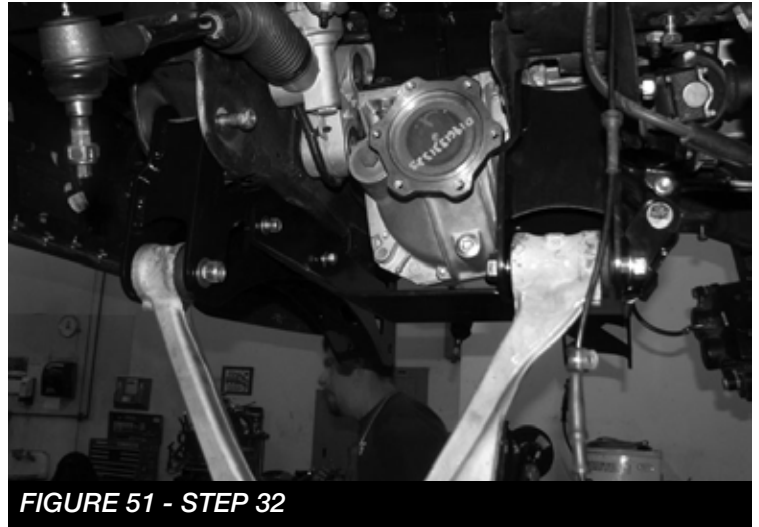

FIGURE 51 - STEP 32
32. Reinstall the lower control arms using the provided 5/8"-11 X 4-1/2" bolt, washers and nut for the front pocket. Use the 5/8"-11 X 5-1/2" bolt, washers, and nut for the rear pocket. Leave loose at this time. **SEE FIGURE 51**